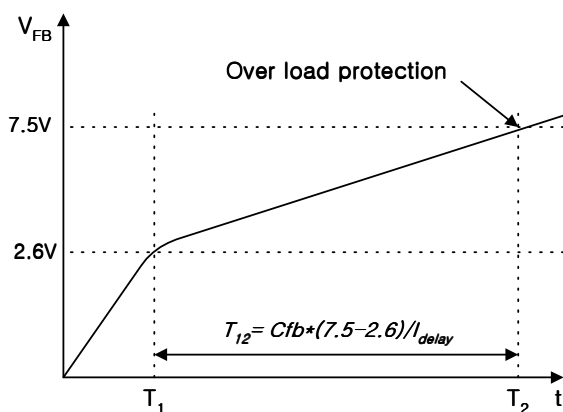

Figure 4. Over load protection
3.2 Over Load Protection(OLP) : Overload means that the load current exceeds a pre-set level due to an abnormal situation. In this situation, protection circuit should be activated in order to protect the SMPS. However, even when the SMPS is in the normal operation, the over load protection circuit can be activated during the load transition. In order to avoid this undesired operation, the over load protection circuit is designed to be activated after a specified period to determine whether it is a transient situation or an overload situation. Because of the pulse-by-pulse current limit capability, the maximum peak current through the SMPS is limited, and therefore the maximum input power is restricted with a given input voltage. If the output consumes beyond this maximum power, the output voltage (V_o) decreases below the set voltage. This reduces the current through the opto-coupler diode, which also reduces opto-coupler transistor current increasing V_{fb} . If V_{fb} exceeds 2.6V, D1 is blocked and the 5 μ A current source starts to charge C_{fb} slowly compared to when the 0.9mA current source charges C_{fb} . In this condition, V_{fb} continues increasing until it reaches 7.5V, and the switching operation is terminated at that time as shown in figure 4. The delay time for shutdown is the time required to charge C_{fb} from 2.6V to 7.5V with 5 μ A. When C_{fb} is 10nF (103), T_{12} is approximately 9.8ms and when C_{fb} is 0.1 μ F (104), T_{12} is approximately 98ms. These values are enough to prevent SMPS from being shut down during transient situations.